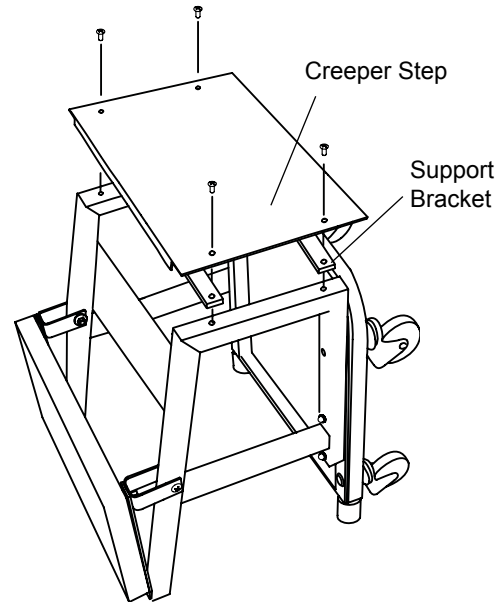

Figure 4 - Attaching Step to Side Frames
4. Fasten Creeper Step to Side Frames using four M6 x 20 Phillips Head Screws (Fig. 4), ensure that the Support Brackets are installed between the Creeper Step and Side Frames.